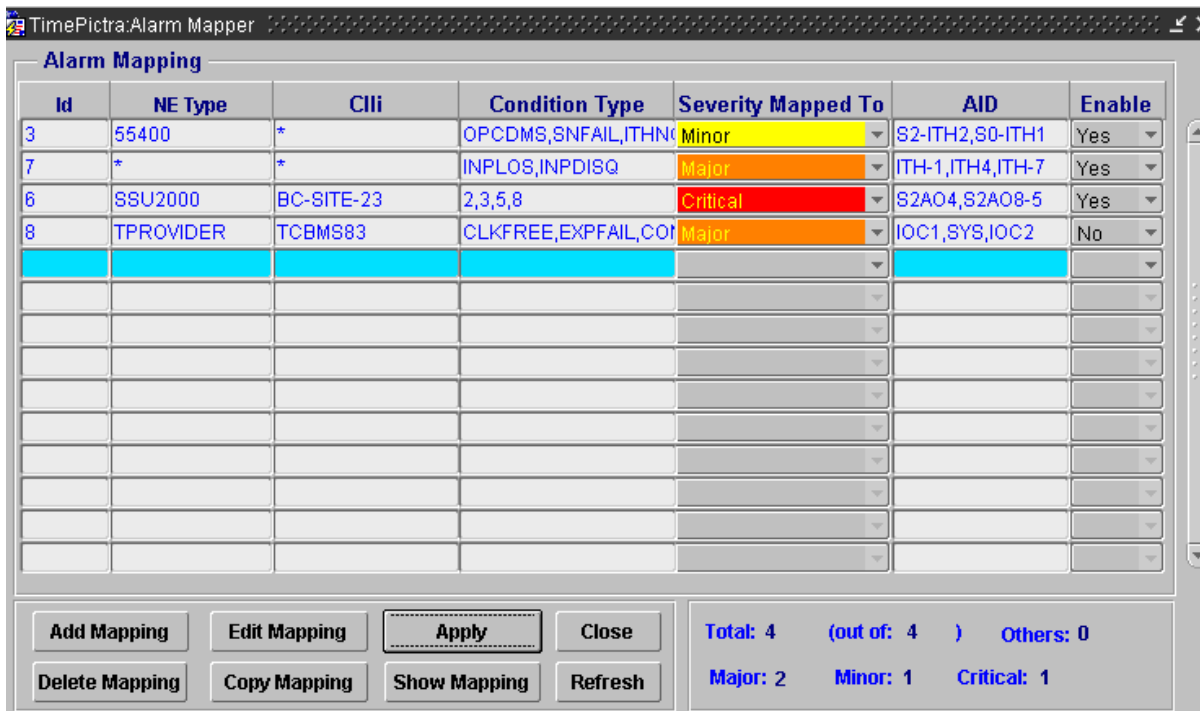

Figure 6-14. TimePictra Alarm Mapper
1. At the Launch Pad screen, select the **Faults** menu item and click **AlarmMapping...** to open the Alarm Mapper screen (Figure 6-14).